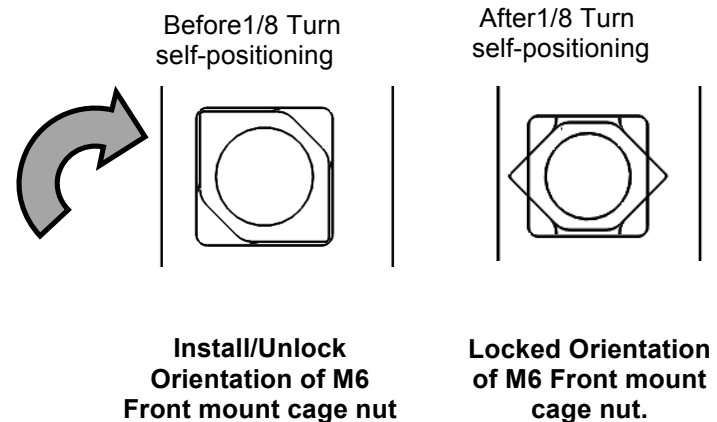

Fig. 1
2. Install "M6 nut 1/8 Turn" to the square hole on the frame (Fig. 1).